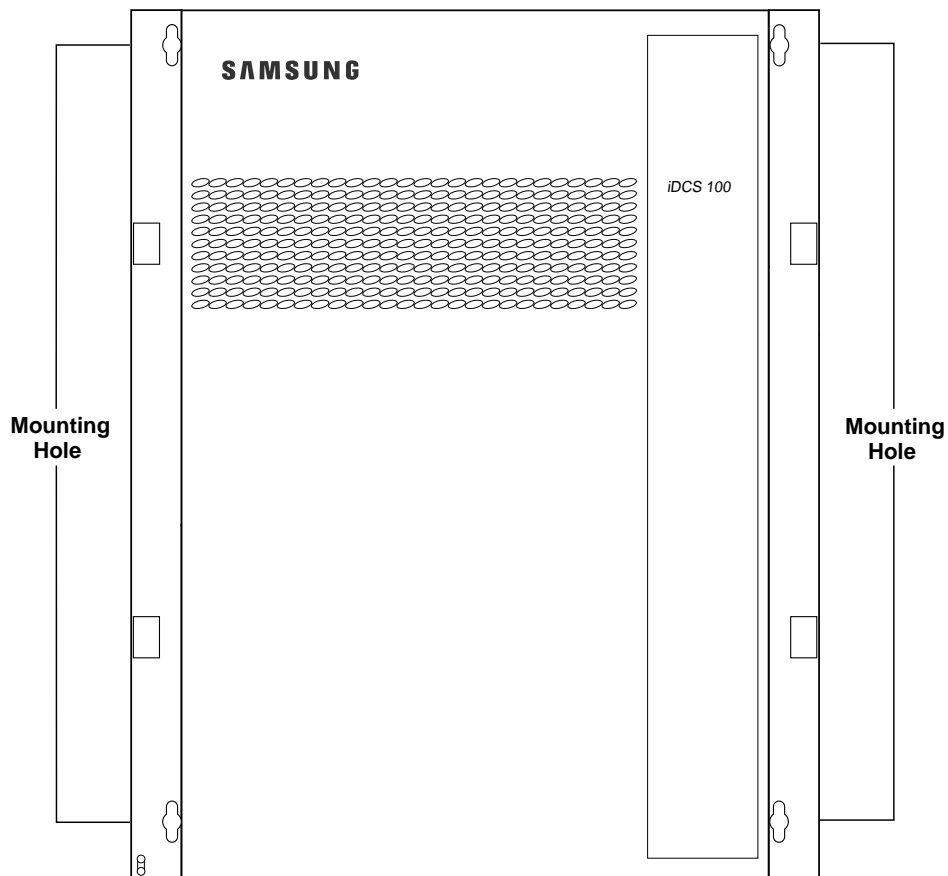

FIGURE 2-1 BASIC KSU (KEY SERVICE UNIT)
- Select a location for the key service unit (KSU) that has enough space for easy installation and has adequate lighting (See Figure 2-1).
Basic KSU is accommodated in a metal cabinet which is wall mounted. In case of wall mounted, the KSU should be mounted on a plywood back at least 5/8" thick. Attach a mounting screw to the back board. Next hang the KSU on the screws and screw it to the back board with the remaining two screws. Tighten all four screws to secure KSU in place. (See Figure 2-1)